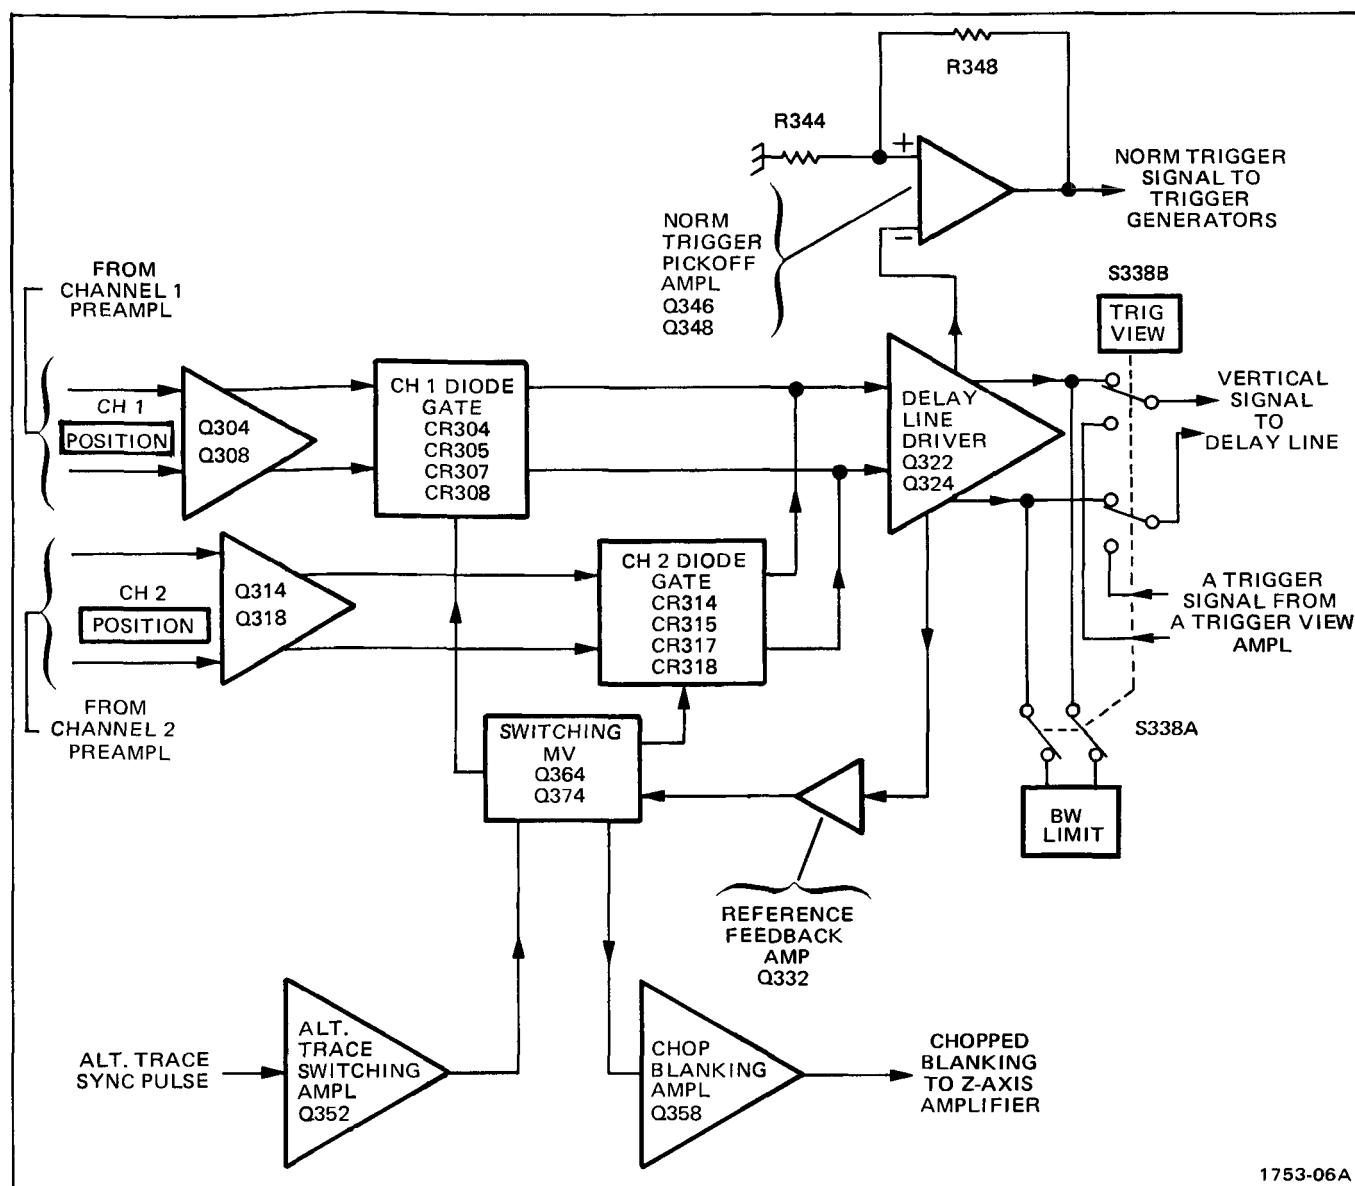

Fig. 3-3. Vertical Switching Circuit Detailed Block Diagram.
**General.** The Vertical Switching circuit determines whether the Channel 1 or Channel 2 or both signals are connected to the Vertical Output Amplifier circuit. In the alternate and chopped modes of operation both channels are alternately displayed on a shared time basis. Figure 3-3 shows a detailed block diagram of the Vertical Switching circuit. A schematic of this circuit is shown on diagram 3 at the rear of this manual.